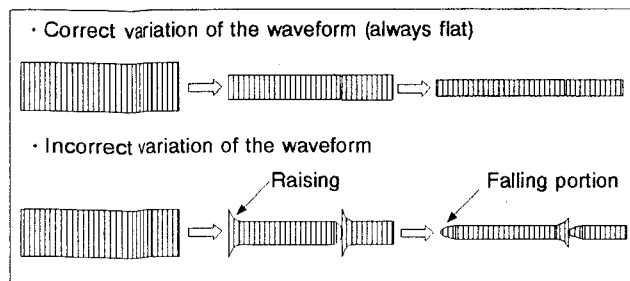

Fig. 2-7-10 FM waveform -2
- 5) By pushing the tracking buttons several times, vary the FM waveform output from maximum to minimum (and vice versa) gradually, and confirm that the variation proceeds in a flat shape, as in Fig. 2-7-10.